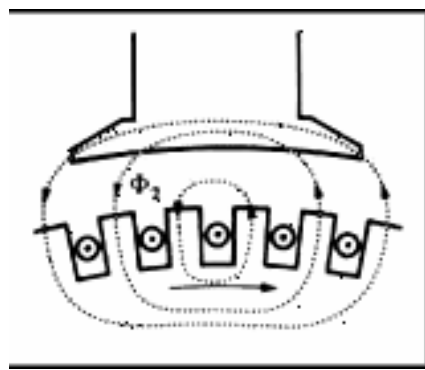

Fig. 2 Flux due to the armature current when running at full load
- When the armature carries its normal current, it produces a strong magnetic field which, if it acted alone, would create a flux as in Fig. 2.